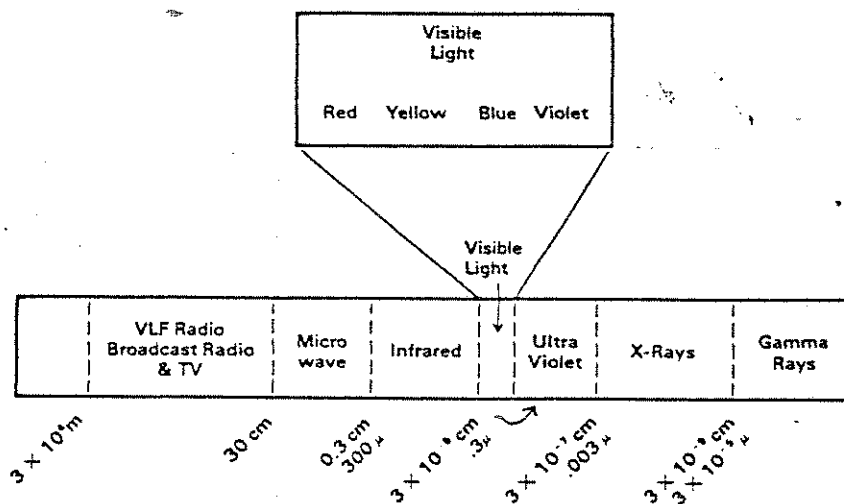

Figure 10. Electromagnetic Spectrum
Infrared (IR) Radiation: Any radiant energy with wavelengths between 0.7 and 1000 microns. The level of IR radiation from an object is directly related to its temperature. IR radiation wavelengths are longer than those of visible light (see Figure 10).